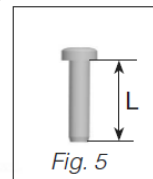
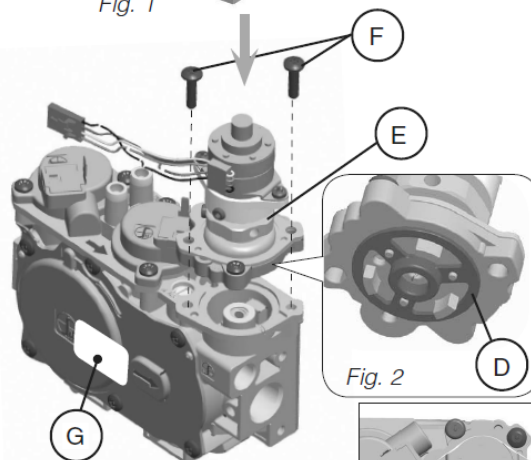
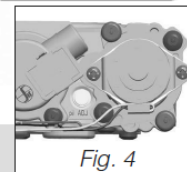

Fig. 5
Fig. 3
Fig. 4
- 4 Install the new STEPPER MOTOR pressure regulator assembly, as shown in Fig. 3 and Fig. 4. Use the supplied screws (F), M4 x 0.7 threaded, length of thread $L = (16 \text{ mm} + 0 - 0.5 \text{ mm})$, steel material, resistance class 8.8 (see Fig. 5).